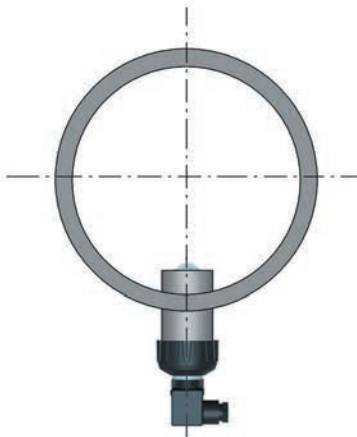
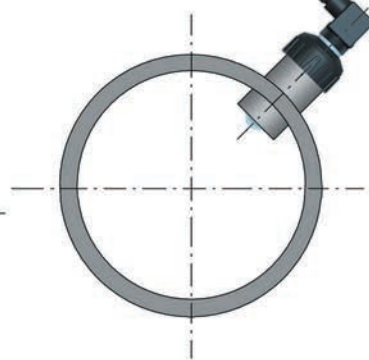

Fig. 1
Fig. 3
- The three installations shown in Fig. 3 should be avoided, unless there is absolute certainty that the sensor does not come into contact with air bubbles.
In a pipe running horizontally, the mounting position for optimum performance must be an angle of 45° (Fig. 3) to avoid the formation of air bubbles and sediments. The vertical position (Fig. 2) can be chosen if no air bubbles are present. Do not mount the sensor on the bottom of the pipe (Fig. 1) if there is a likelihood of sediment formation. Do not mount the rotor sensors at 90° , otherwise friction may affect the validity of the measurements. With the exception of the last consideration about 90° installation, all the previous considerations are also valid for sensors with an electromagnetic meter. For optimal orientation, install a vertical section of the pipe. To ensure that the pipe is full, it is preferable that the flow is directed upwards.